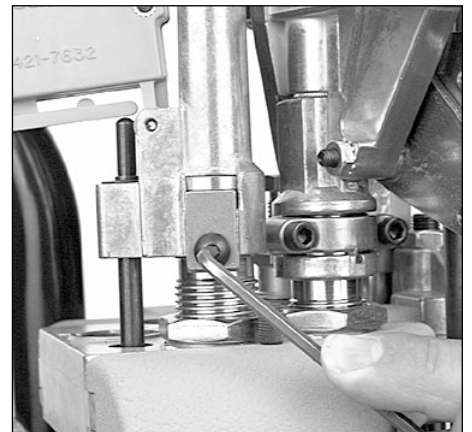

FIG 58
5. Reinstall and snug the die clamp screw **FIG 58**.